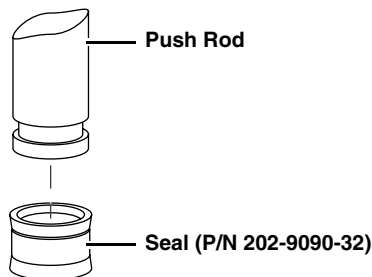

Figure 4-4 Attach seal to push rod
16. Place the replacement seal upside-down on a firm, flat surface (Figure 4-4).